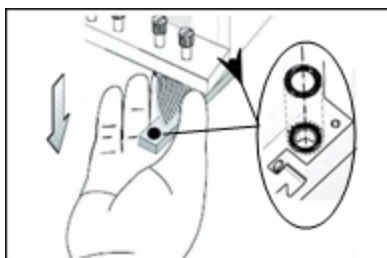

Figure 6-79 O-ring seals on the print head
14. Inspect the replacement head, and make sure that the O-ring seals are in place (see Figure 6-79 on the previous page).